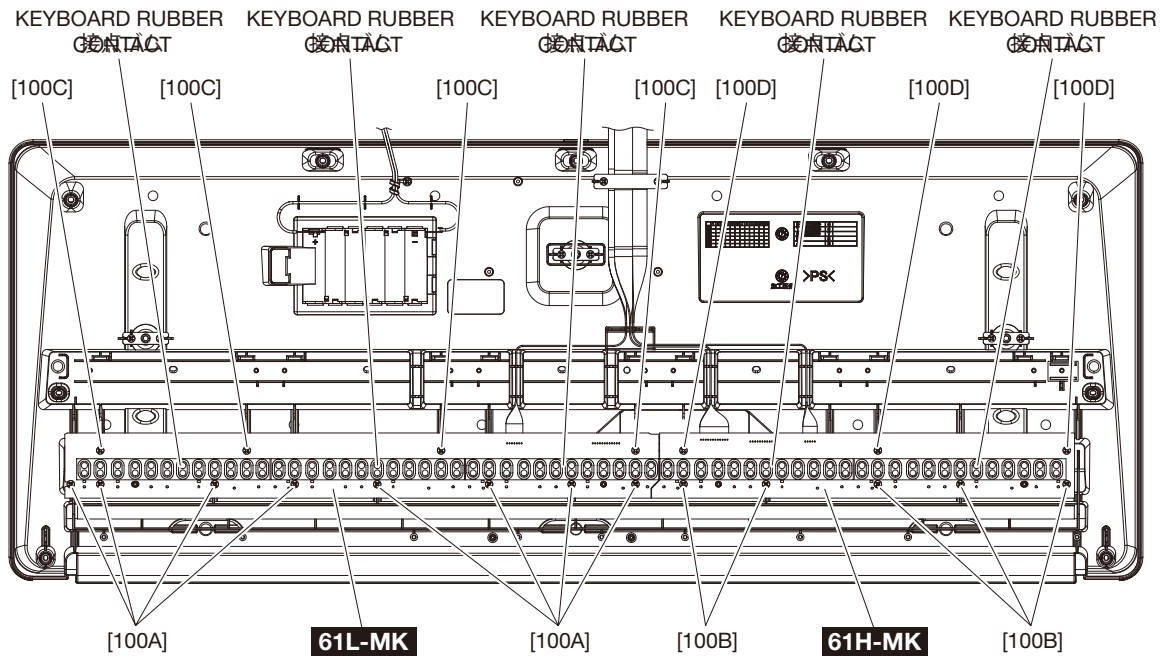

Fig.7
2. Remove the 4 screws marked [100C] and 8 screws marked [100A]. The circuit board 61L-MK can then be removed. (Fig.7)
2. Remove the 3 screws marked [100D] and 5 screws marked [100B]. The circuit board 61H-MK can then be removed. (Fig.7)